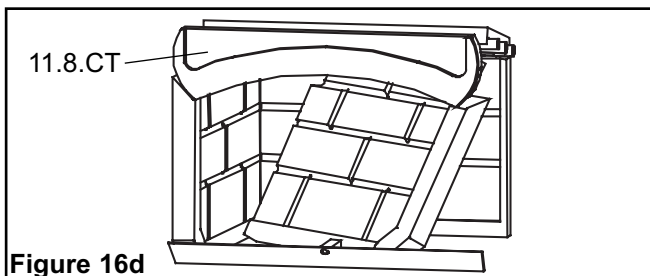

Figure 16d
- 6. Insert the arch refractory brick (11.8.T) in the firebox as shown in Figure 16d.